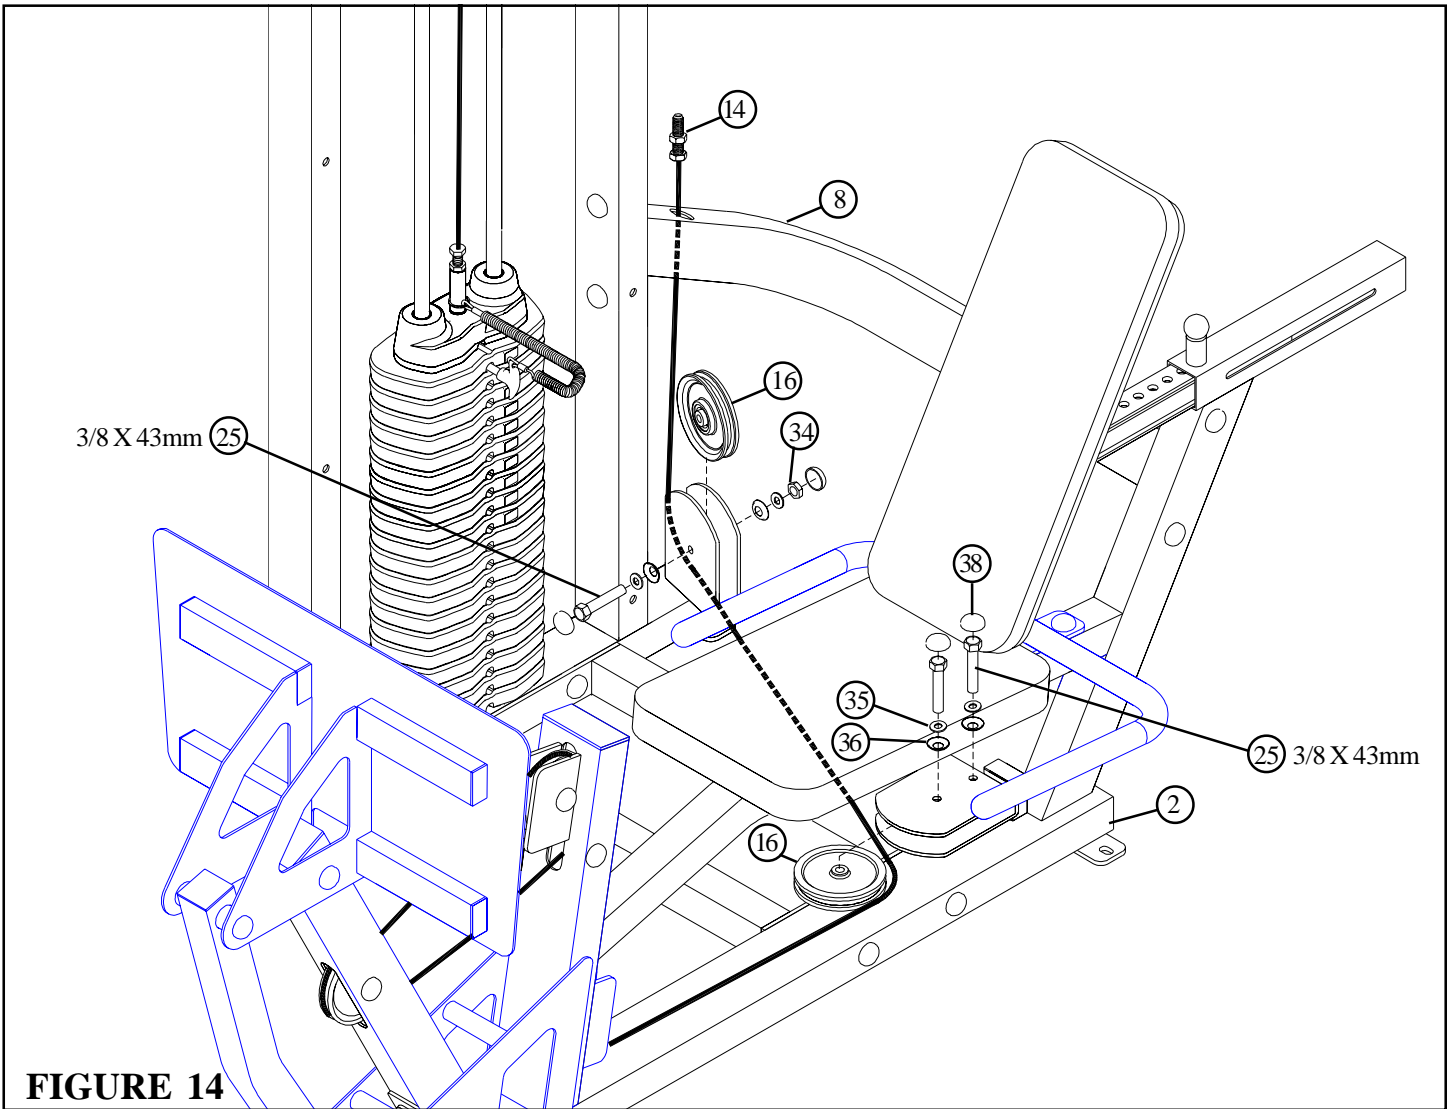

FIGURE 14
- Route the LEG PRESS CABLE (14) through the horizontal bracket on the LEG PRESS FRAME (2) and **SECURELY** assemble one 4-1/2" PULLEY (16) to the bracket using two RH CAPS (38), two 3/8 X 43mm BOLTS (25), two 3/8" SAE WASHERS (35) and two 3/8" RH WASHERS (36) as shown in FIGURE 14. **(NOTE: Make sure CABLE runs over top of retaining bolt.)**
- Route the LEG PRESS CABLE (14) through the vertical bracket on the TOWER (1) and **SECURELY** assemble one 4-1/2" PULLEY (16) to the bracket using two RH CAPS (38), one 3/8 X 43mm BOLT (25), two 3/8" SAE WASHERS (35), two 3/8" RH WASHERS (36) and one 3/8" LOW HEIGHT LOCK NUT (34) as shown in FIGURE 14. **(NOTE: Make sure CABLE runs over top of retaining pin.)**
- Route the LEG PRESS CABLE (14) through the hole on the UPPER SUPPORT (8) as shown in FIGURE 14.